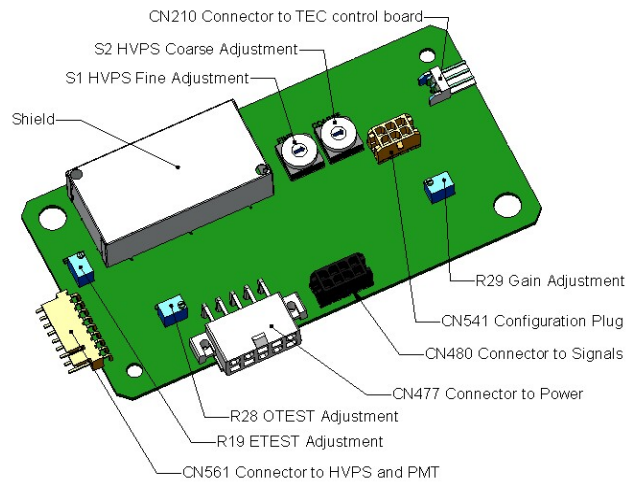

Figure 5-26. Pre-Amplifier Board Layout
4. Locate the following components on the preamplifier board (Figure 5-26):